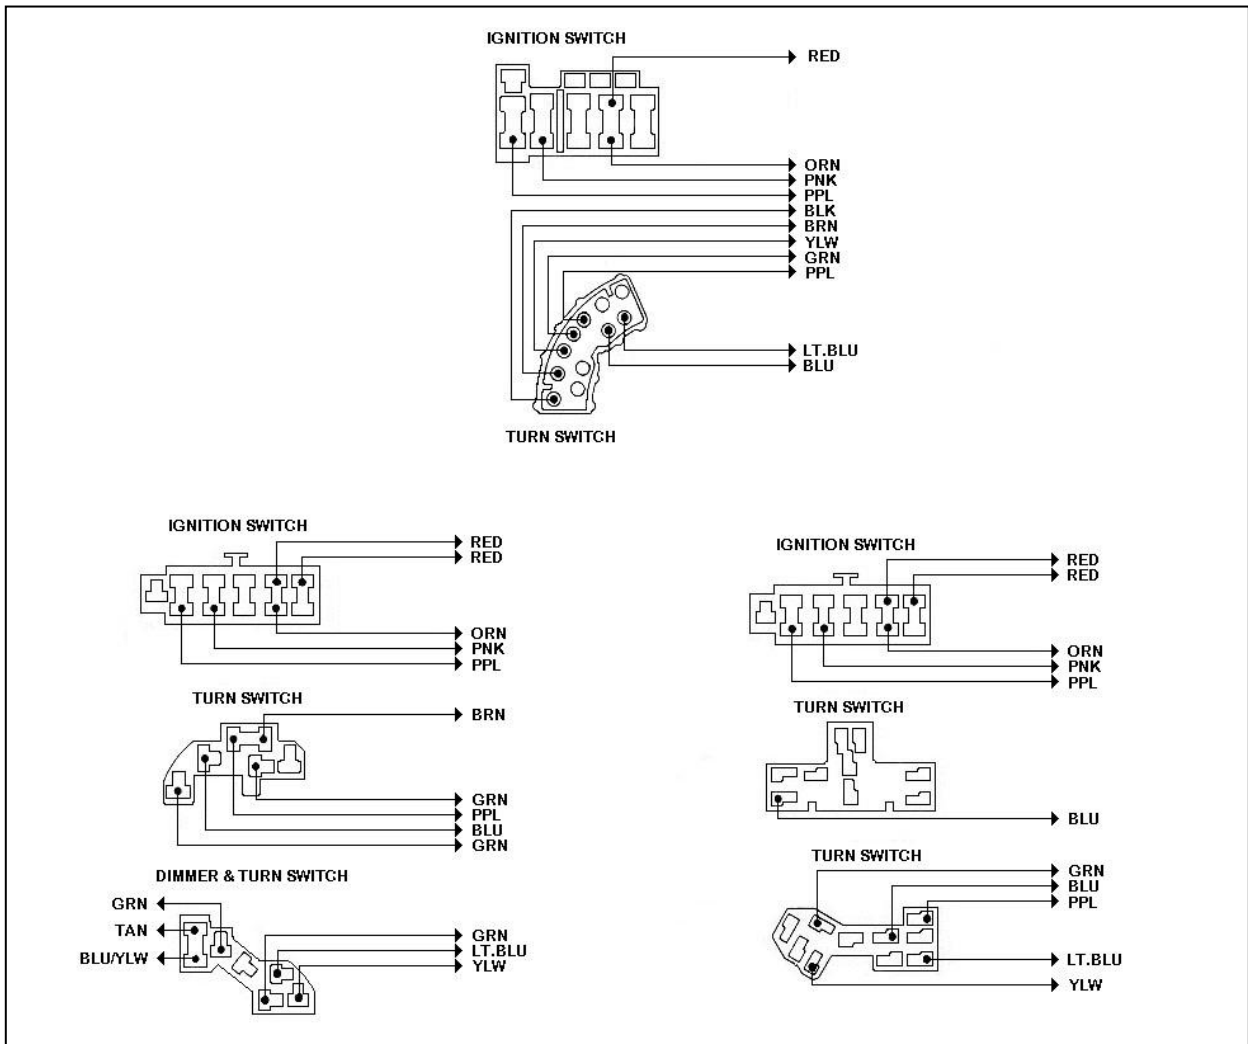

Figure 8-3 Ford Ignition Switch Connectors (See note on Page 10, Section 8.2)
8.4.1 Connect the wires of the IGNITION SWITCH SECTION according to **Table 8-1**. **Figure 8-3** represents three (certainly not all) possible Ford ignition switch connector configurations and how they should be wired.